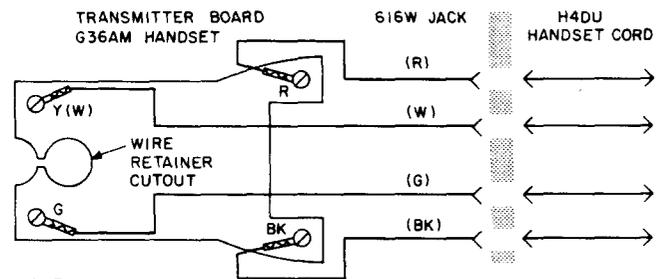

Fig. 4—Transmitter Board, Connections
- (4) Connect and dress the leads from the 616W jack to the transmitter board terminals as indicated in Fig. 4.
- (3) Connect the new cord conductors to the transmitter board terminals (Fig. 4). Dress the conductors together into the wire retainer cutout on the transmitter board.